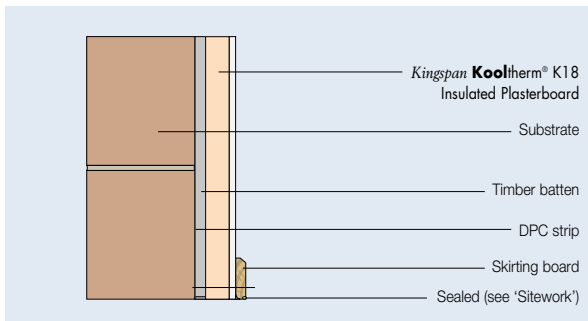

Figure 8 – Packer and Skirting Detail
- The packer should be replaced with a flexible sealant or equivalent (for 5 mm gaps), or with a combination of flexible polyurethane foam and flexible sealant or equivalent (see Figure 8).